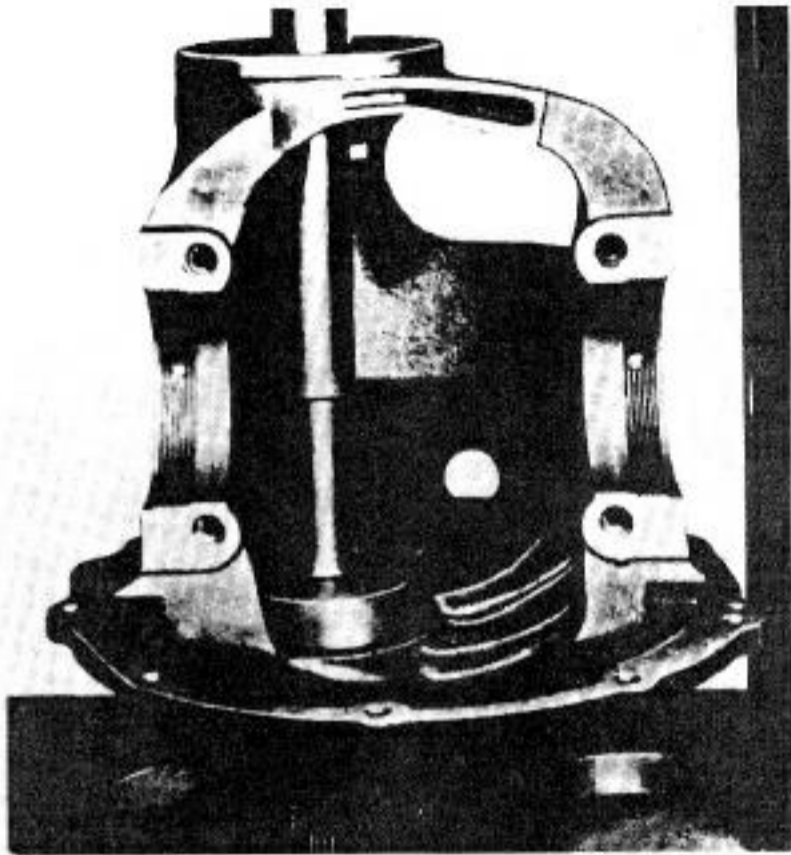

Fig. 11-14. Seating outer race of pinion tapered-roller bearing in differential carrier.
4. Press the outer race of the pinion tapered-roller bearing into the differential carrier, as illustrated in Fig. 11-14.